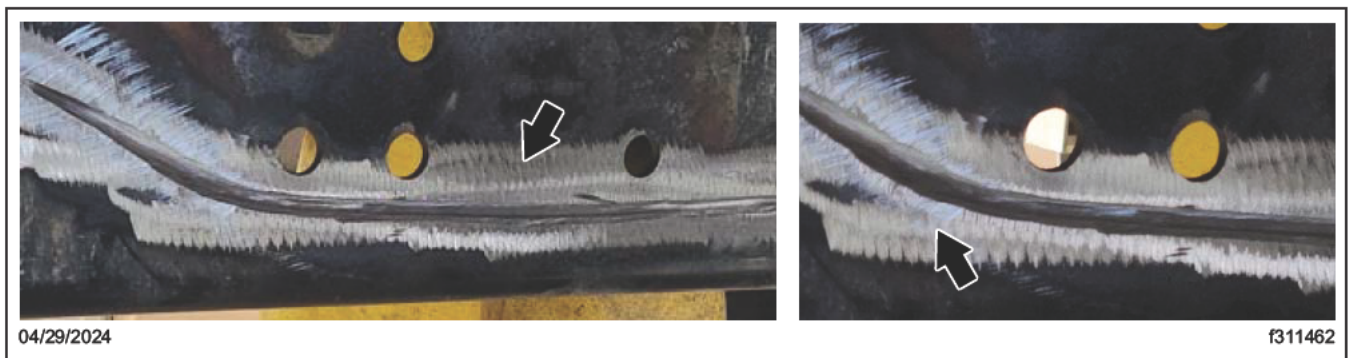

Fig. 19, After Grinding 1/4 to 1/2 Inch Past Each End of the Crack on the Frame Rail
6. Grind the crack 1/4 to 1/2 inch past each end of the crack to prevent further cracking. It is the responsibility of the welder to prepare their own work. See Fig. 19.